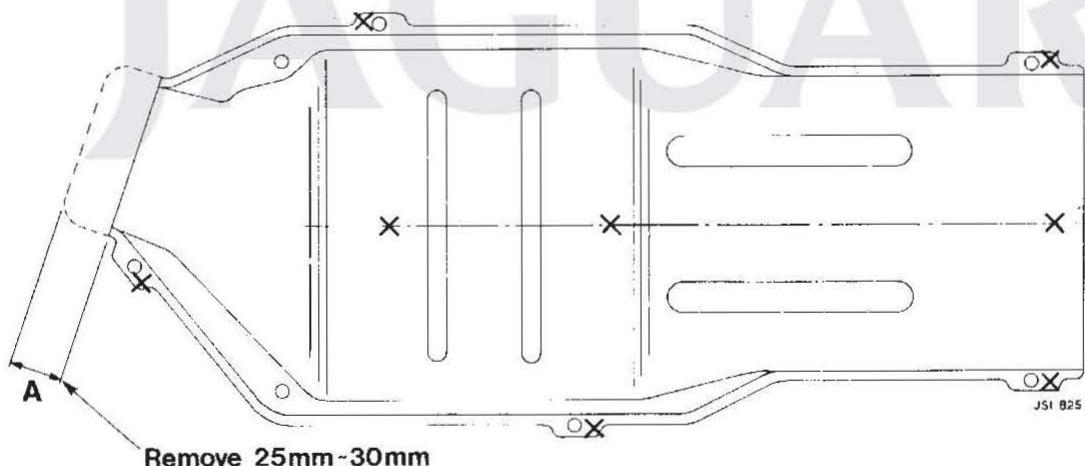

FIG 1
2. Cut off the inlet nose (A Fig 1)
4. Spotweld (or bolt) the two heatshields together, see diagram for positions (X Fig 1).